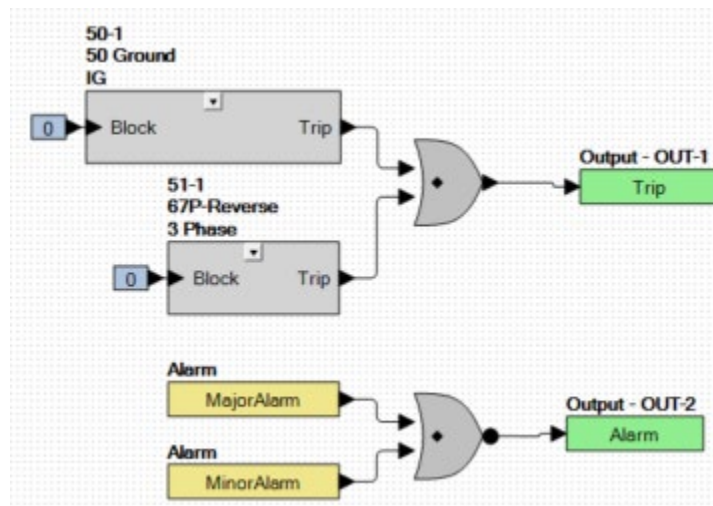

Figure 2-23. Logic Example
- d. Wire (click and drag a line from an output to an input) as shown in Figure 2-23.